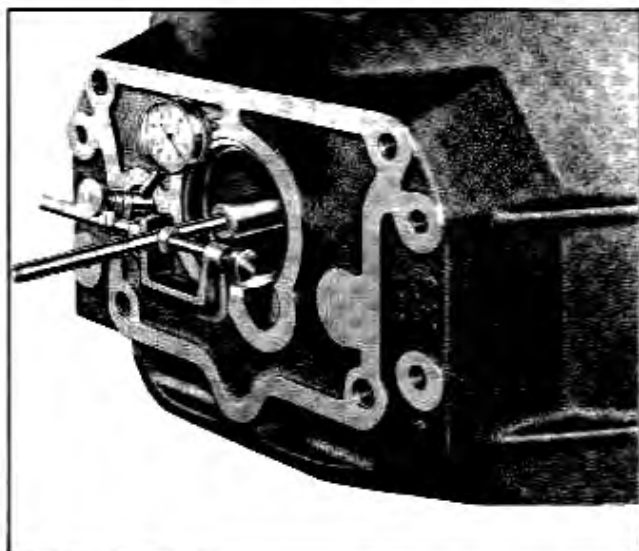

Fig. 7-30 Dial Indicator in Place to Check Face
a. Change indicator location so stem of indicator contacts rear face of flywheel housing $\frac{3}{4}$ " from edge of hole (or $2\frac{3}{8}$ " radius from center of hole) as shown in Fig. 7-30.